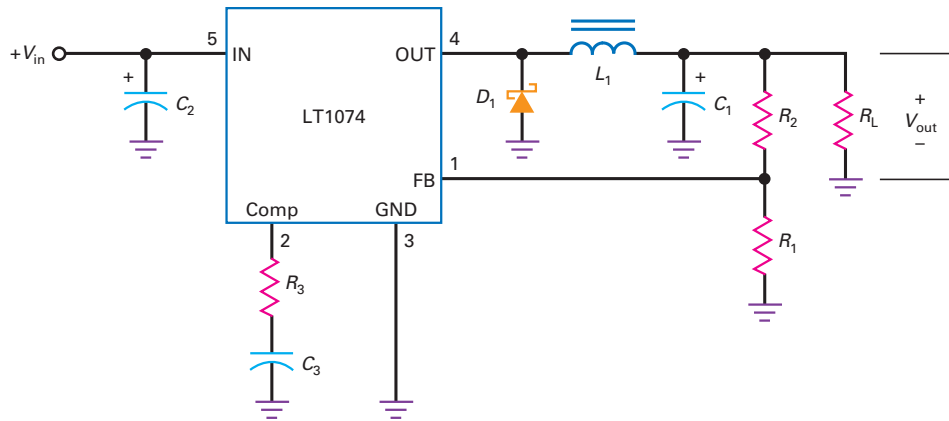

Figure 39-20 Buck regulator IC.
As an example, a generic buck regulator IC circuit is shown in Fig. 39-20. It contains most of the components discussed earlier, such as a reference voltage (2.21 V), a MOSFET or BJT switch, an internal oscillator, a pulse-width modulator, and a comparator. It runs at a switching frequency of 100 kHz, can handle input voltages from +8 to +40 Vdc, and has efficiency of 75 to 90% for load currents from 1 to 5 A.
Figure 39-20 shows the IC connected as a buck regulator. Pin 1 (FB) is for the feedback voltage. Pin 2 (comp) is for frequency compensation to prevent oscillations at higher frequencies. Pin 3 (GND) is ground. Pin 4 (out) is the switched output of the internal switching device. Pin 5 (in) is for the unregulated dc input voltage.
In Fig. 39-20, D_1 , L_1 , C_1 , R_1 , and R_2 serve the same functions as described in the earlier discussion of a buck regulator. But notice the use of a Schottky diode to improve the efficiency of the regulator. Because the Schottky diode has a lower knee voltage and faster switching speed, it wastes less power. The data sheet of the IC recommends adding a capacitor C_2 from 200 to 470 μF across the input for line filtering. Also recommended are a resistor R_3 of 2.7 k Ω and a capacitor C_3 of 0.01 μF to stabilize the feedback loop (prevent oscillations) in the internal error amp.